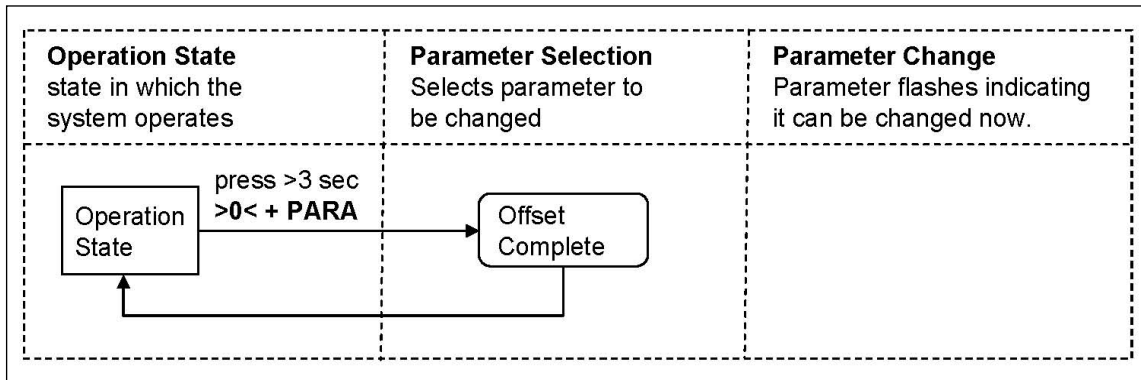

Fig. 5: State diagram offset compensation
2. The display will show [Offset Complete] when the process is finished (see **Fig. 5** State diagram offset compensation).